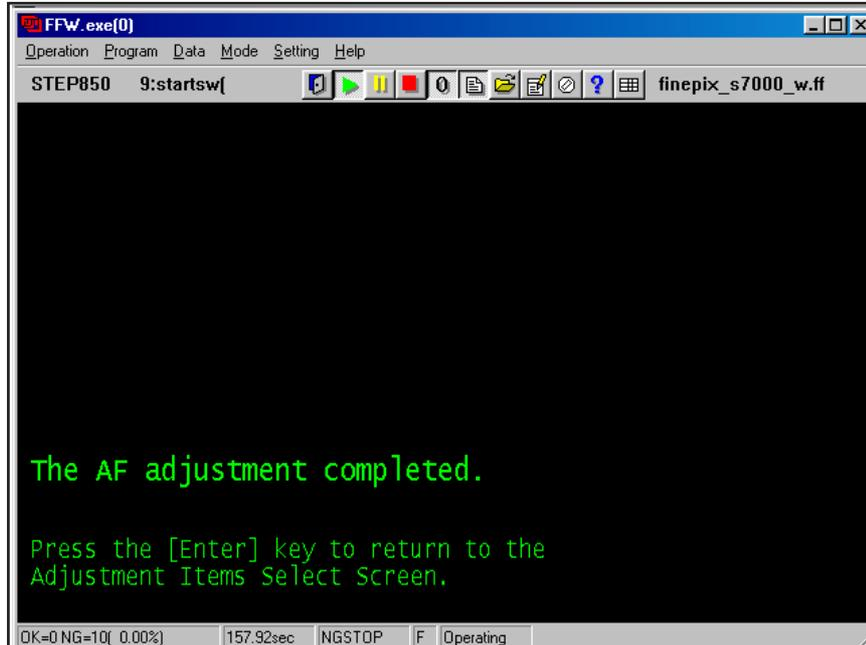

Fig.26
---> Adjustment proceeds to backlash adjustment, zoom reset adjustment, and AF adjustment, and the [AF Adjustment Complete Screen (Fig.26)] appears.